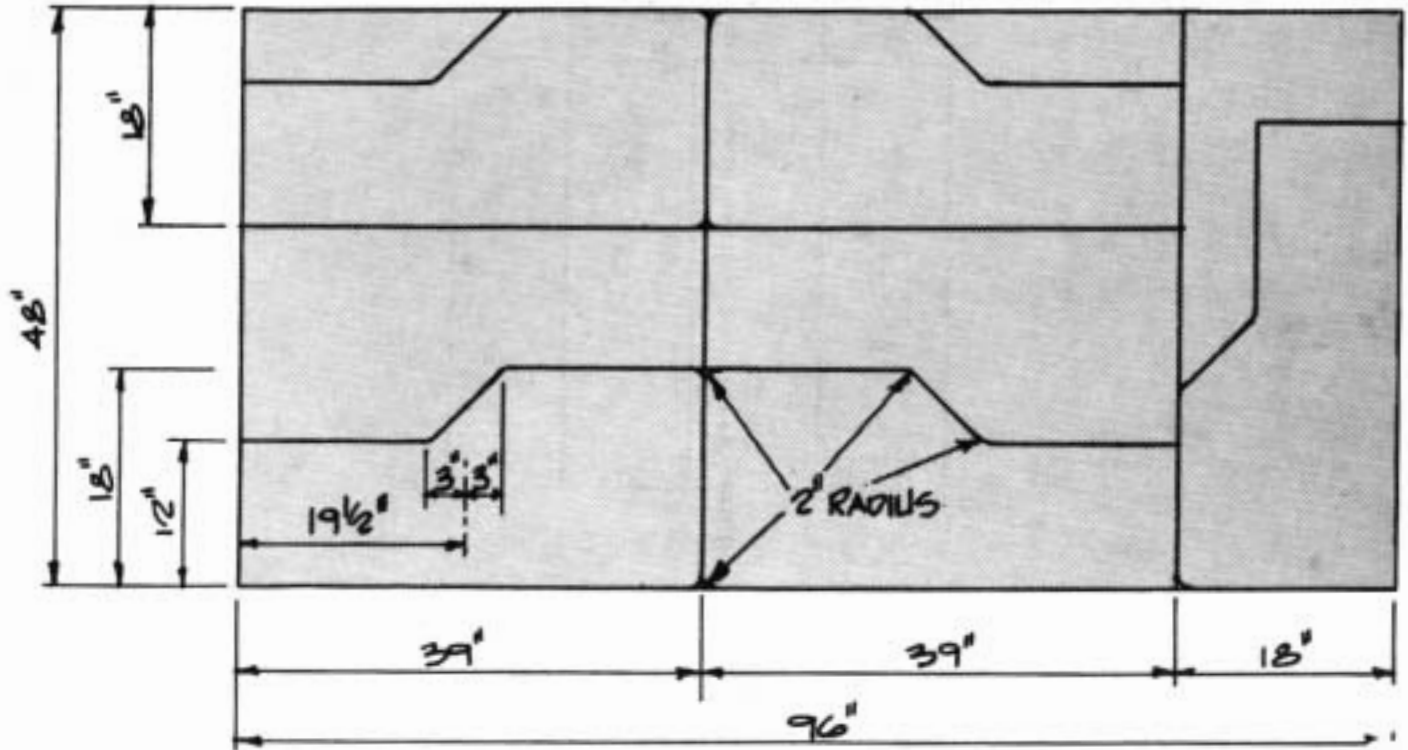

FIGURE 5
3. Assemble center divider holders ⑤ to top ⑦ and bottom ⑥ using 1" c/s wood screws and glue. Check dimensions to slot, and check slot for vertical squareness. Maintain slot width to accept divider.
4. Assemble top brace ③ to top ⑦ and sides ② using 2" c/s wood screws and glue. Pre-drill all screw holes.
5. Assemble bottom brace ④ to bottom ⑥ and sides ② using 2" c/s wood screws and glue. Align slot in part ④ with slot in part ⑤ and top surface of part ⑥. Pre-drill all screw holes.
6. Units may be mounted to walls at this time. Use a minimum of eight 2" c/s wood screws. Install four screws in part ③ as shown, and install four screws similarly located in part ④. Units should be attached to wall studs when possible.
8. Nail and glue the 1/8" Masonite x 16" x 96" to the 1/2" plywood x 16" x 96" making the desk top ⑧.
9. Desk top ⑧ should be mounted with c/s wood screws and aligned so that top of desk ⑧ is flush with top of part ⑥. When drilling holes for eye bolts, be sure to locate so that bolts and chain do not interfere with part ② when closing.
13. Divider details are shown on page 12, Figure 5.
Rip one 5/8" sheet of particle board into seven partitions. (Fig. 5)